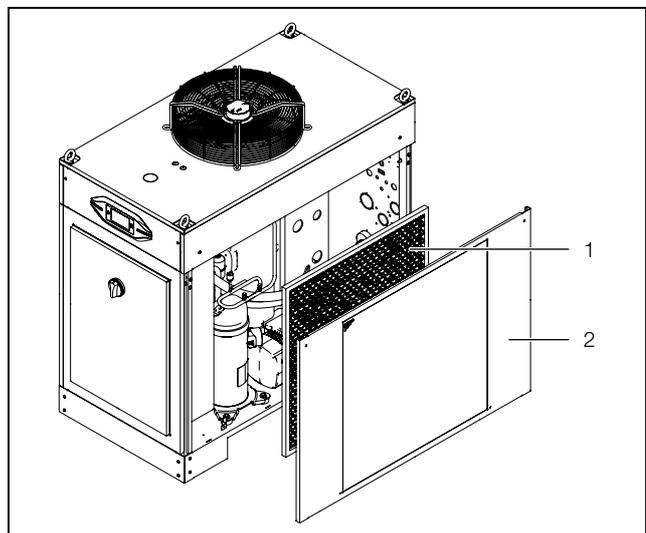

Fig. 15: Remove the side panel
- Dismantle the side panel (fig. 15, item 2) of the chiller, and place it somewhere safe.
- Insert the metal filter (fig. 15, item 1) inside the side panel into the designated frame and secure it.